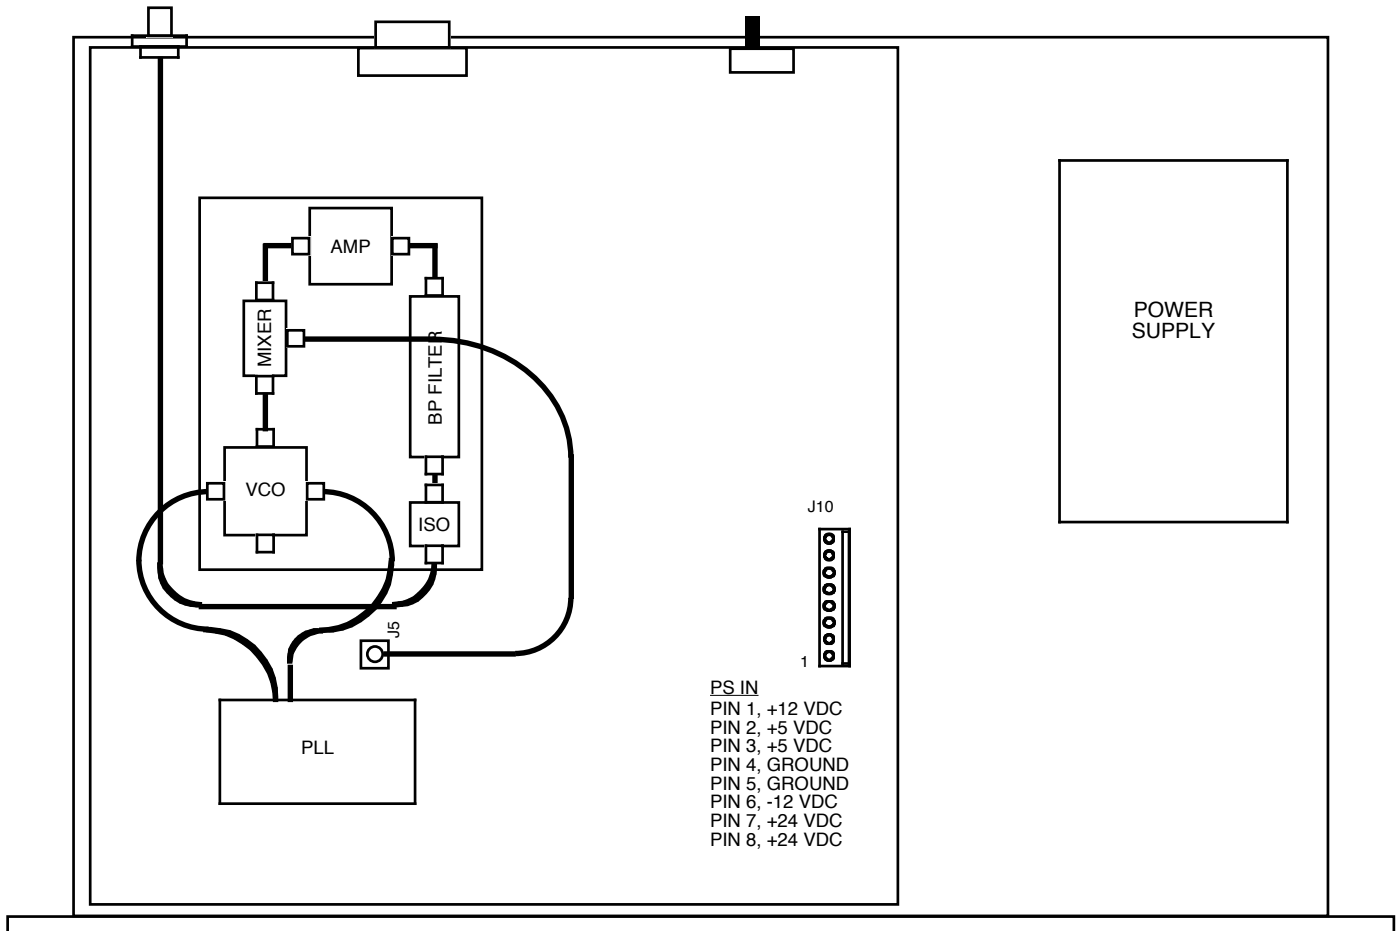

FIGURE 2.0 3116-T12-1311 Mechanical Assembly
2.1 Mechanical - The 3116-T12-1311 Multi-Band Block Translator consists of a controller board and RF plate assembly. A switching ± 12 , $+24$, $+5$ VDC power supply provides power for the assemblies. The 3116-T12-1311 can be secured to a rack using the 4 holes on the front panel. Figure 2.0 shows how the 3116-T12-1311 is assembled.